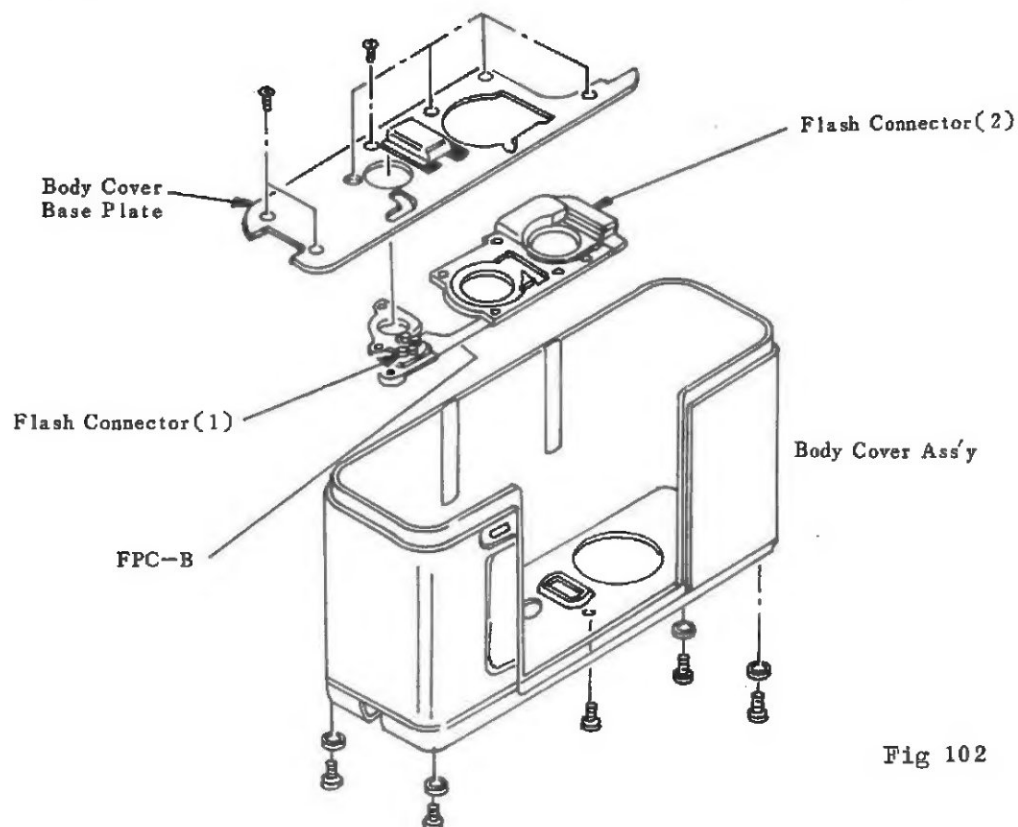

Fig 102
- (2) Bad soldering or defective of ⑩ ⑭ Trigger Coil on the FPC-C Ass'y.
- (3) Bad soldering two Black and Orange lead wire of Xe Lamp or defective of Xe Lamp.
- (4) Bad soldering or defective of ⑩ Arrestor on the FPC-C Ass'y.
- (5) Failure in soldering of lead wire and parts of Flash Unit.
- (6) Bad soldering of FPC-B inside of Body Cover as shown in Fig.102
- (7) Bad soldering Black, Yellow and Brown lead wire from Body Contact Frame on the FPC Ass'y.
- (8) Defective of IC.